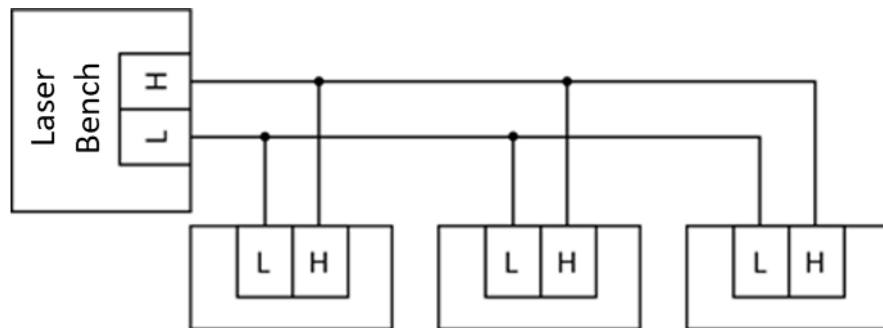

Figure 11 – CAN interface connection scheme
2. Connect the laser driver to the output connector of the LaserBench, the connection diagram of the laser controllers to the CAN network is shown in the fig 11. **Note** pinout.